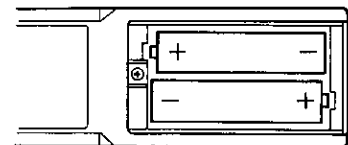

Fig. 6b
2. Install 2 "AA" size batteries (not supplied) exactly as shown in the battery compartment (Fig.6b).